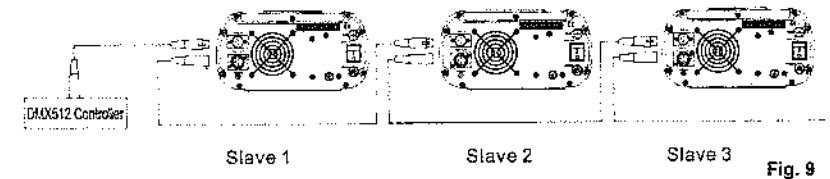

Fig. 9
- ① If you need Master/Slaves change color synchronously, please set all of slaves into "001";
- ② If you need Master/Slaves chase to change color, please set slaves into "009", "017" and so on (add "8" one after another).
3. The connection of DMX Signal Control Mode (See Fig. 9):